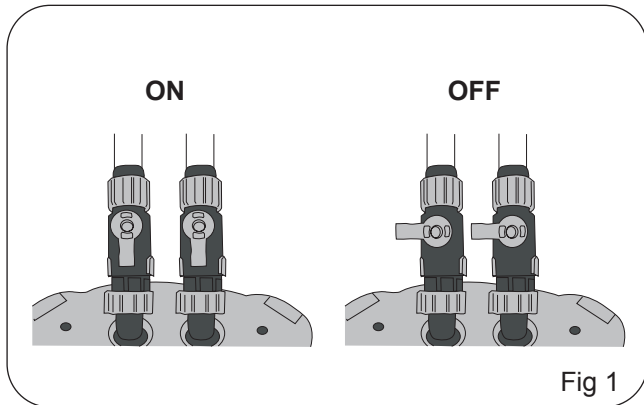

Fig 1
1. Open the filter unit by releasing the 4 clips located on the corners of the filter, then lift the head unit off the canister body. Fig 1
Note: Your aquarium must be filled with water to prime your filter. Ensure both taps are in the ON position by shifting the plastic lever from the OFF (horizontal) to the ON (vertical) position. Once the filter is running double check the fittings and seals for water tightness. Fig 1
2. Turn both of the taps to the off position. Fig 1